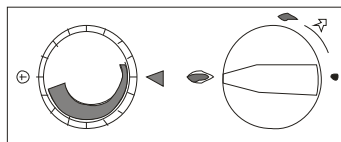

Figure 5- Main Burner Operational, but gas flow off
2. Turn the IGNITION KNOB anticlockwise to the main flame position as shown in **Figure 5**.